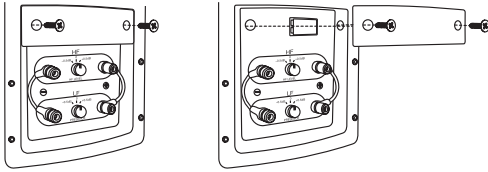

Figure 9.
1. Remove the battery access cover that is located above the input binding posts. Use a small- or medium-tip Phillips screwdriver. Refer to Figure 9.